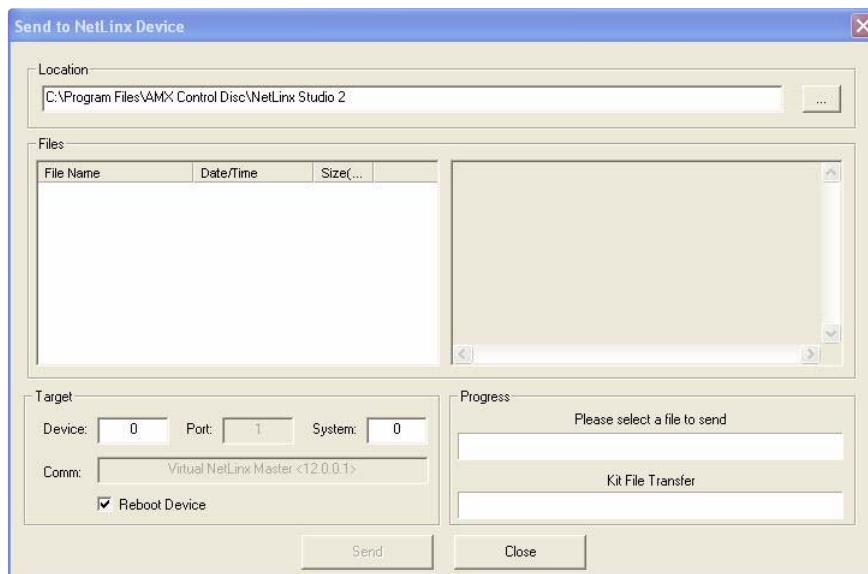

FIG. 75 Send to NetLinx Device dialog window
7. Select Tools > Firmware Transfers > Send to NetLinx Device from the main menu to open the *Send to NetLinx Device* dialog (FIG. 75). Verify that the panel's System and Device number values match those values listed within the System folder in the **OnLine Tree** tab of the Workspace window.